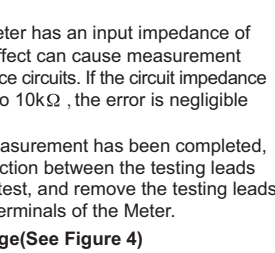

Figure 4
B. Measuring AC Voltage(See Figure 4)